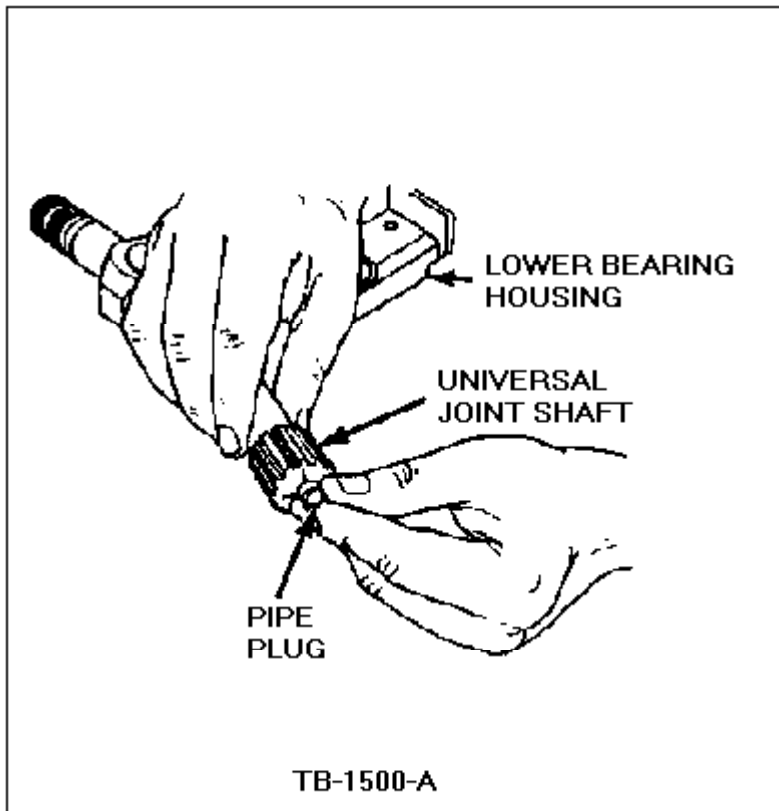

Figure 33 - Article 90-5-10
25. Turn the 1/8" pipe plug finger tight into the tapped hole in the slotted end of the universal shaft, Figure 33.